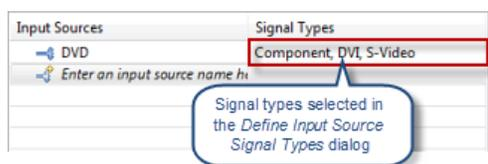

FIG. 68 Device Control table - Data cell (Input Source > Properties > Input Source): Browse icon
- b. Click **OK** to close the *Define Input Source Signal Types* dialog. The selected signal types are indicated in the *Signal Types* cell for the new input source (FIG. 68):